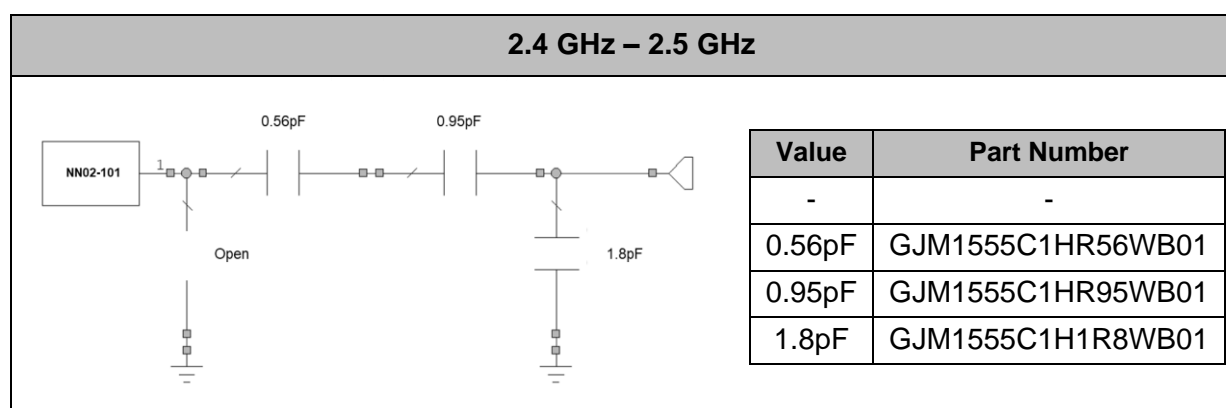

Figure 5 – Matching network implemented in the Evaluation Board (Figure 4) for covering Bluetooth from 2.4GHz to 2.5GHz.
By simply changing the matching network, NANO mXTEND™ can also deliver optimal performance in an edge mounting configuration. A suitable matching network for edge mounting in the reference board pictured above is shown in Fig.5. Please note that different form factors of your wireless device and its RF ground planes, and the proximity of other elements such as shields, covers, connectors and the like might result in the need for a fine tuning of the matching network.
To ensure optimal results, the use of high-quality factor (Q) and tight tolerance components is highly recommended (e.g. Murata components with part numbers as shown in **Figure 5**). The antenna performance is always conditioned by its operating environment meaning that differences in the device, including differences in printed circuit board sizes, components near the antenna, displays, batteries, covers, connectors, etc. affect the antenna performance. Accordingly, placing pads compatible with 0402 and 0603 SMD components for a matching network as close as possible to the feeding point of the antenna element is highly recommendable. It is recommended to do this in the ground plane area, not in the clearance area. By tuning the matching network in your final design after your final surrounding components are in place (batteries, displays, covers, etc.) you will be able to optimize the antenna performance without changing the antenna part or the design.